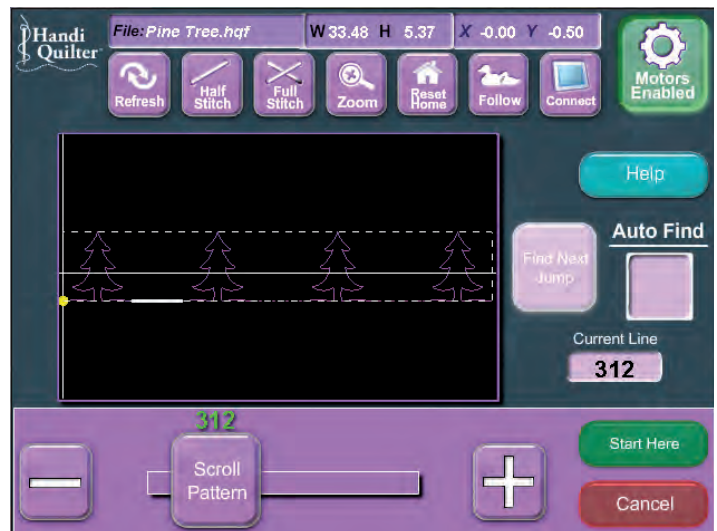

Figure 47
2. Another option for locating a new starting point is to use the “Find Next Jump” button. In a pattern with multiple jump points, this can be used to jump quickly from one jump point to the next (Figure 47).